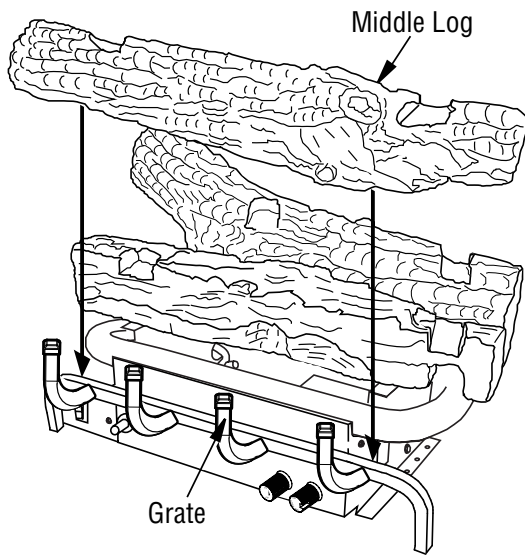

Figure 23 - Installing Front Log
3. Place the front log onto grate as shown in **Figure 23**.